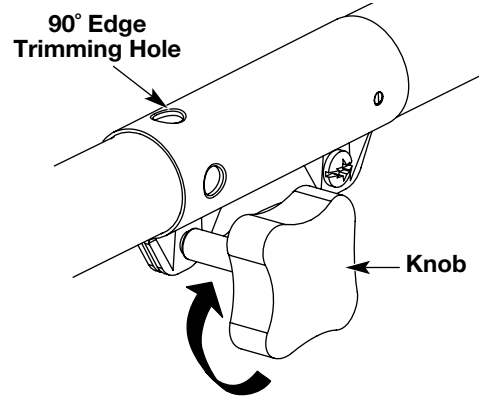

Fig. 8
3. Turn the knob clockwise to tighten (Fig. 8).
For decorative trimming/edging with the **line head cutting attachment**, lock the release button of the cutting attachment into the 90° hole (Fig. 8).